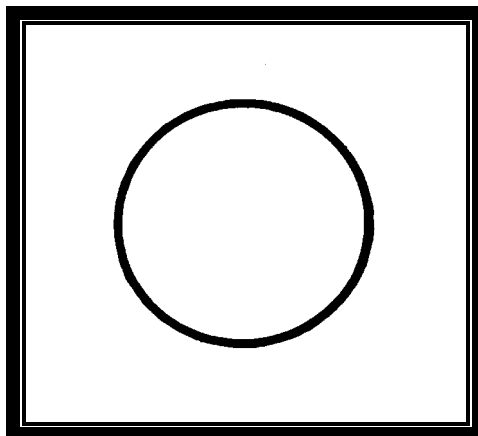

Figure 8
(3) *Shot-group Size.* The 4 centimeter circle that is centered on the target is not where the impact of the bullets is impacting (remember you are centering the aiming light beam on this). So this circle needs to be centered over the unique point (intersection of line 9 right and line 3 down). Firers are not as precise at night. Research has shown that the 4 centimeter circle is not a realistic standard for night firing, given the reduced visual acuity at night through goggles and the difficulties in aiming consistently. A 5.5 centimeter circle is better. See Figure 8. (See Chapter 4 of the 82d Abn Div OTN Individual Training Package for a full-sized reproducible copy.) This circle can either be transferred directly onto the target, centered over the “unique impact point,” or a transparent training aid with a black 5.5 centimeter circle can be used.